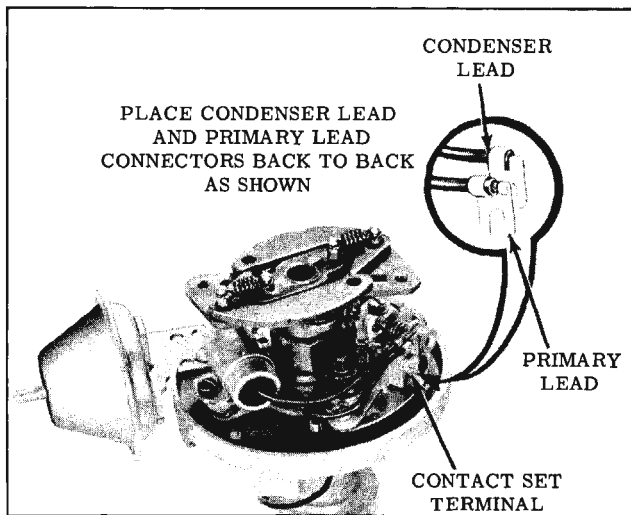

Fig. 14-134 Condenser and Primary Lead
5. Connect the primary wire to the contact set terminal. (Fig. 14-134)